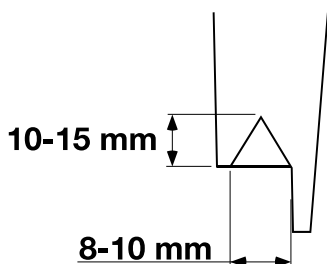

Fig 13.
- d Fit the pre-cut nozzle. ⇒ Fig 13. \(□ B-46\).